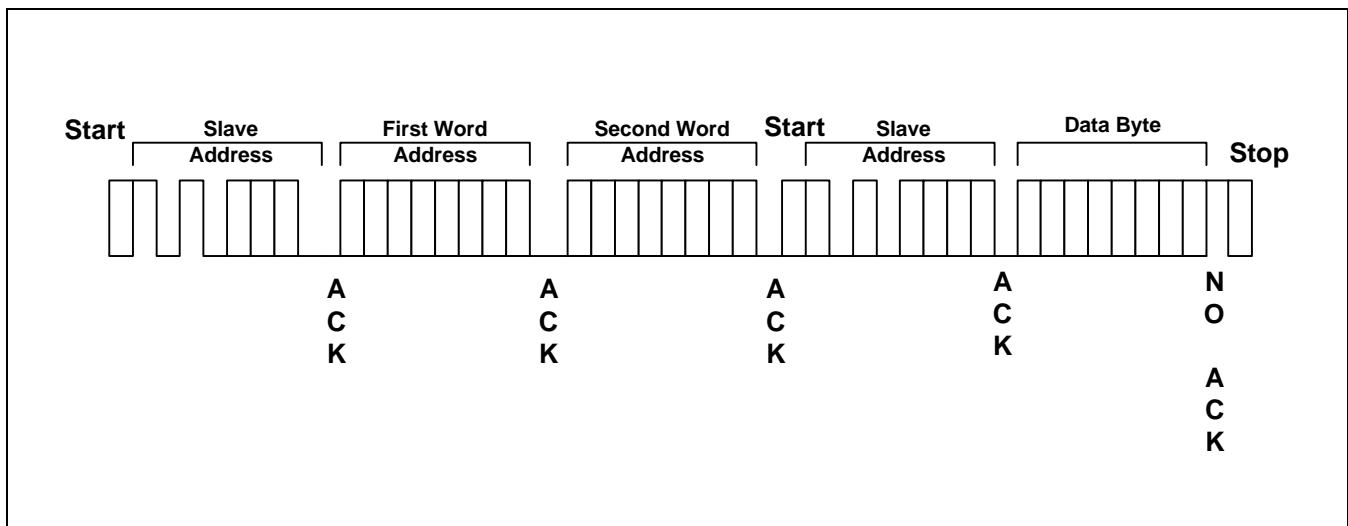

Figure 3-13. Random Address Byte Read Operation
5. The KS24L321/641 stops transmitting data and reverts to stand-by mode (see Figure 3-13).